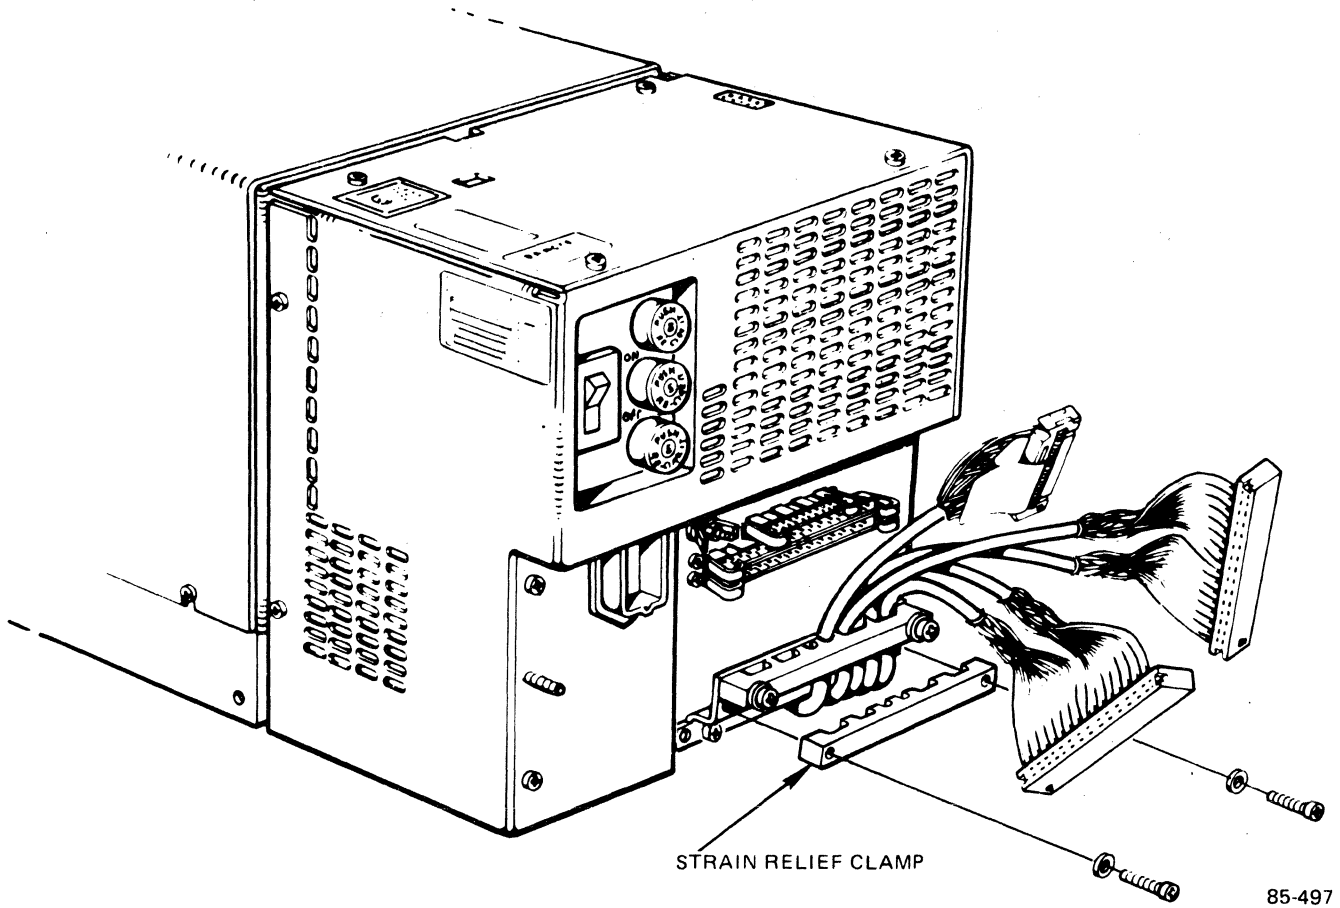

Figure 2-18. Strain Relief Clamp Installation
10. Locate the strain relief clamp, and install it to the bottom of the cable clamp bracket with the two screws and washers provided as shown in Figure 2-18. Ensure that the cables are seated correctly in the slots.